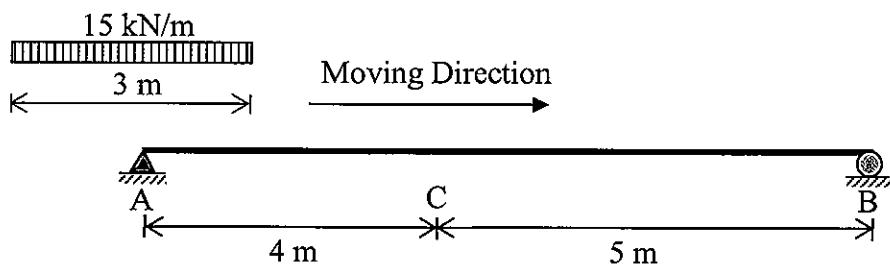

Figure A2(a) / Rajah A2(a)
- (a) A simply supported beam with a uniformly distribution load is shown in Figure A2(a) and moving from A to B. By using Influence Line Diagram Method: